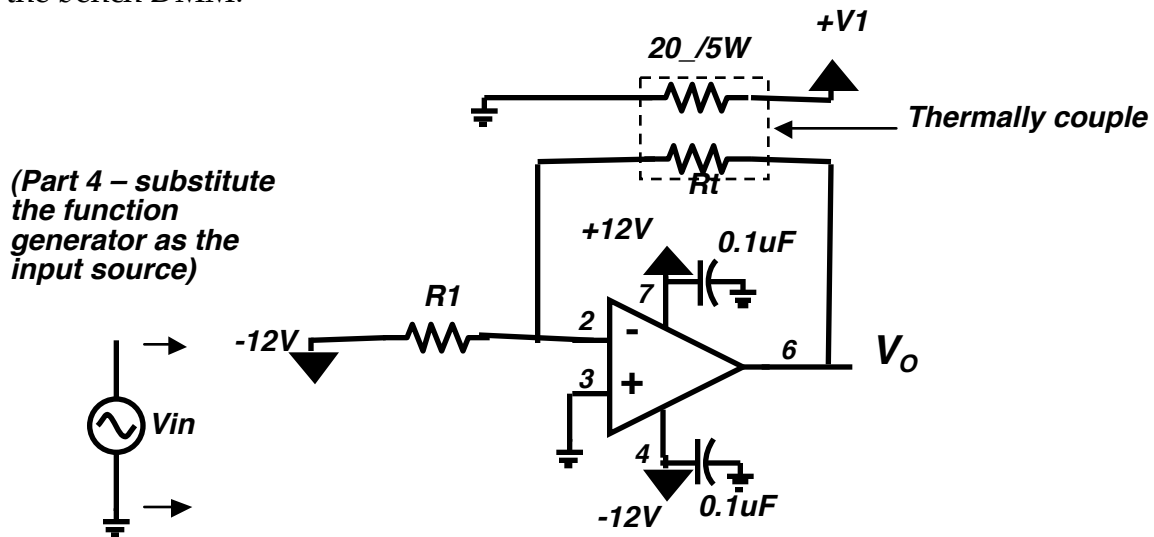

Figure 3a
1. Build the circuit of figure 3a, using the decade resistor as  $R_1$ . Use the  $\pm 20V$  outputs of the power supply to create the  $\pm 12V$  sources, and use the  $+18V$  supply for V1. Be sure V1 is initially set to 0V. The thermistor needs to be thermally coupled to the 20\_ power resistor. Do this by clamping the thermistor to the power resistor, and the power resistor to the metal part of the breadboard, with a large paper clip, as shown in figure